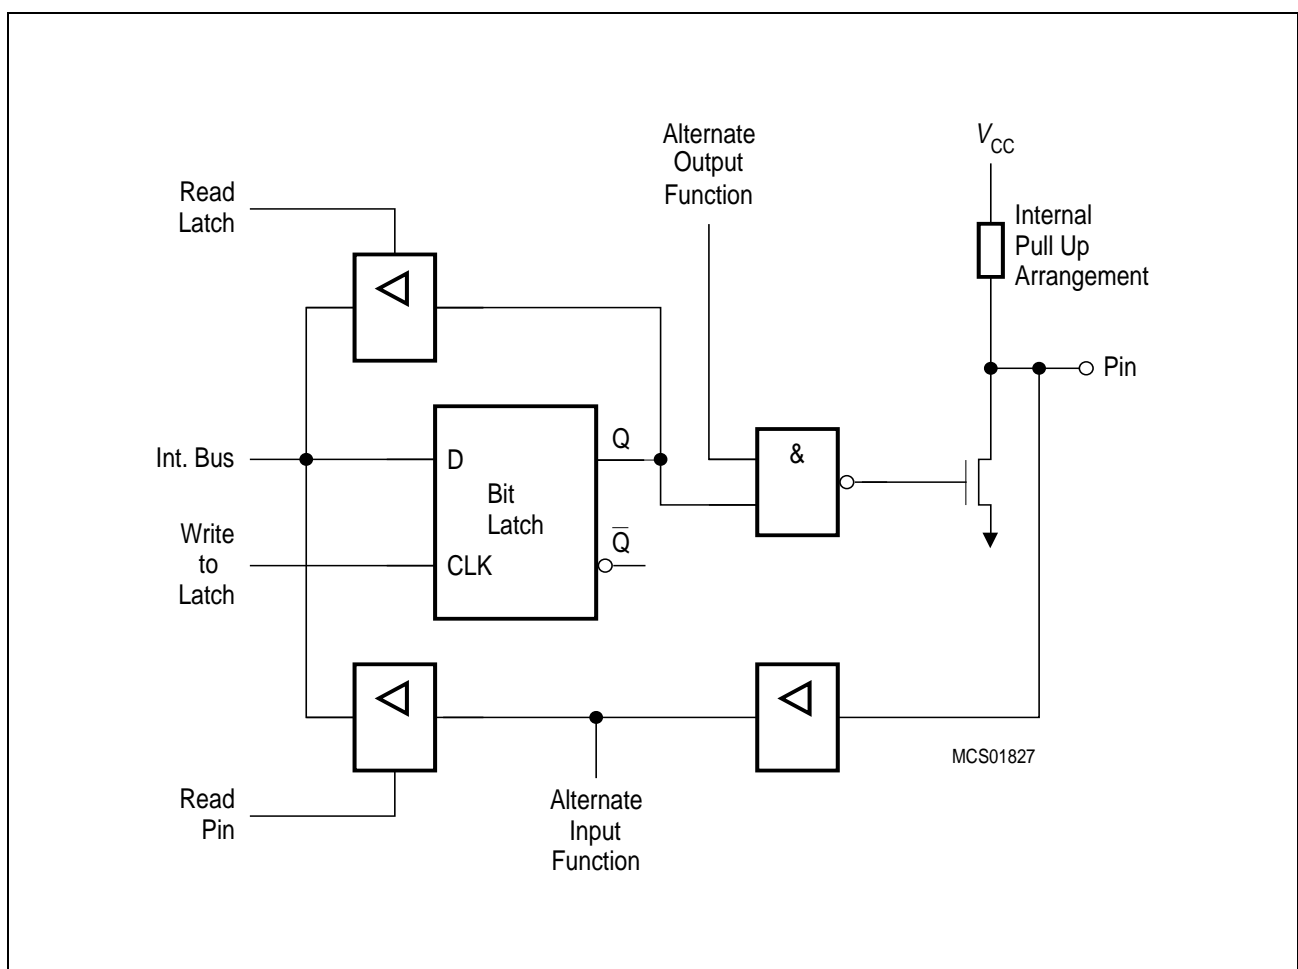

Figure 7-5
Figure 7-5 shows a functional diagram of a port latch with alternate function. To pass the alternate function to the output pin and vice versa, however, the gate between the latch and driver circuit must be open. Thus, to use the alternate input or output functions, the corresponding bit latch in the port SFR has to contain a one (1); otherwise the pull-down FET is on and the port pin is stuck at 0. (This does not apply to ports 1.0 to 1.4 and ports 5.0 to 5.7 when operated in compare output mode; refer to section 7.5.3 for details). After reset all port latches contain ones (1).